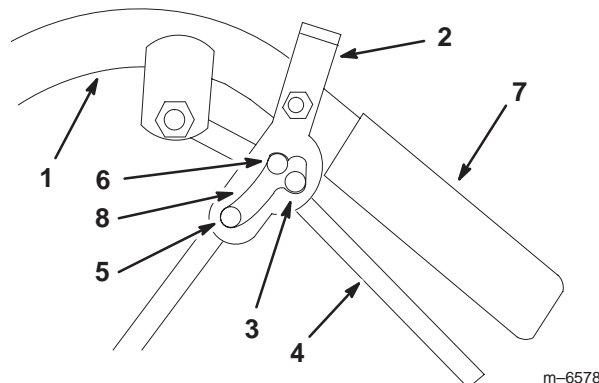

Figure 11
1. Squeeze the drive levers back to neutral position (Fig. 11).
2. Place thumbs on the upper part of the neutral locks and rotate them back (Fig. 11).
1. Squeeze the drive levers back to the grip slightly (Fig. 11).
2. Place thumbs on the upper part of the neutral locks and rotate them forward until in the forward slot (Fig. 11).
1. Pull the brake handle rearward (Fig. 11).
1. Push the brake handle forward (Fig. 11).